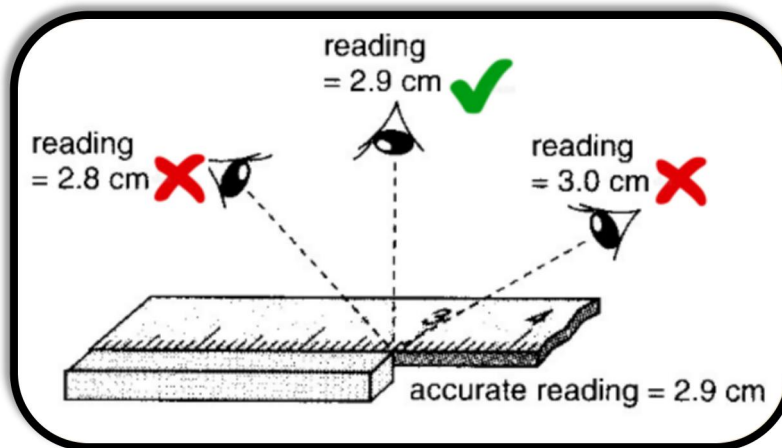

Figure 1.9 Parallax error
2. Avoid parallax errors. The eye must be kept vertically above the end of the object so that the corresponding graduation can be read clearly. If the eye is not kept exactly vertically above the end of the object, it leads into error called “parallax error” as shown in **Figure 1.9**.